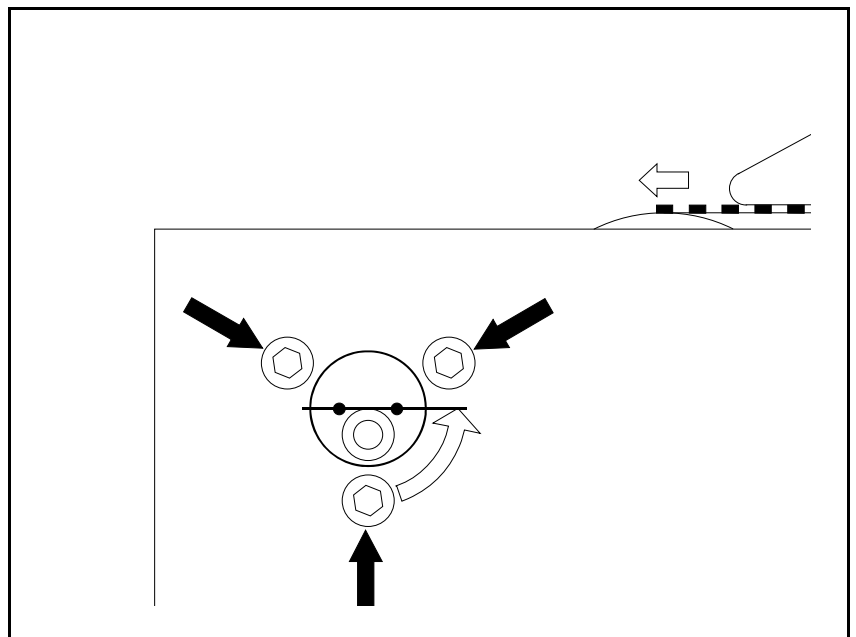

Figure 13-16. Magazine pick-up position, first feeder.
4. Adjust feeder 1 by loosening three screws, see Figure 13-16. Turn the eccentric disk with two holes as shown in the figure.
- Remove the magazine if inserted near the machine frame. Otherwise, it can be adjusted without being moved. If the eccentric disk is turned *counter-clockwise*, the pick-up position is moved forwards, see Figure 13-16.